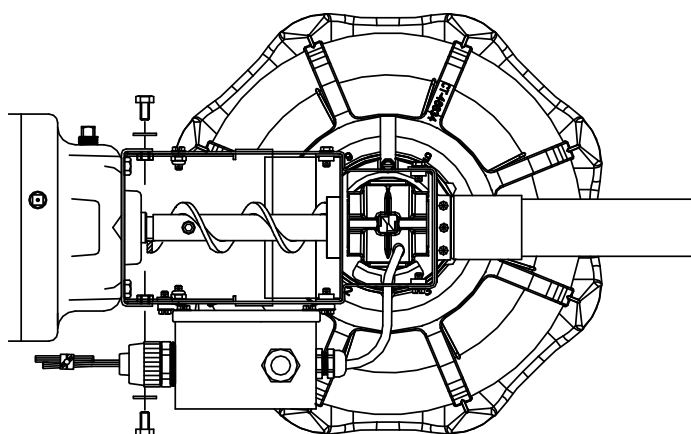

Figure 49. Attaching the Anchor Plate and Gearhead Assembly to the Control Unit Body
7. Attach the Anchor Plate and Gearhead Assembly to the Control Unit Body using the included 1/4" Lock Washers and 1/4-20 x 1/2" Bolts. See **Figure 49**.